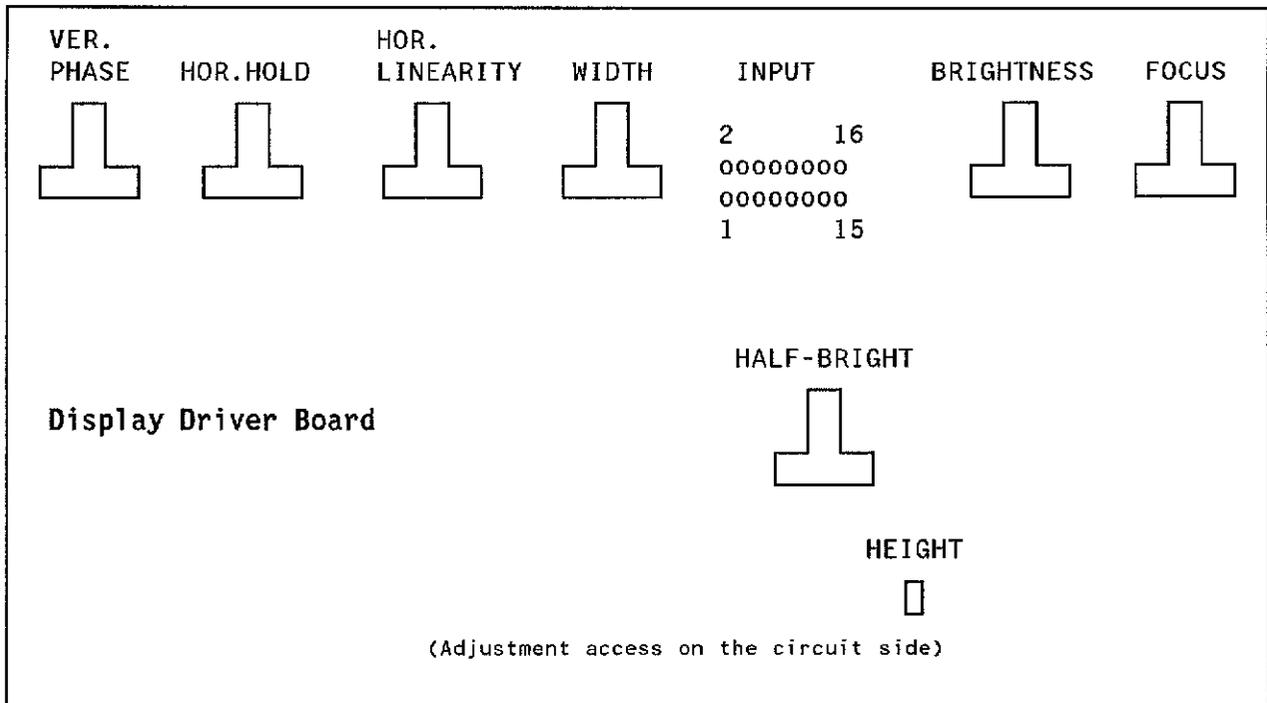

Figure 4-6. Display Adjustment Locations
4. If necessary, adjust BRIGHTNESS control pot until display pattern is visible. See figure 4-6 for display adjustment locations.